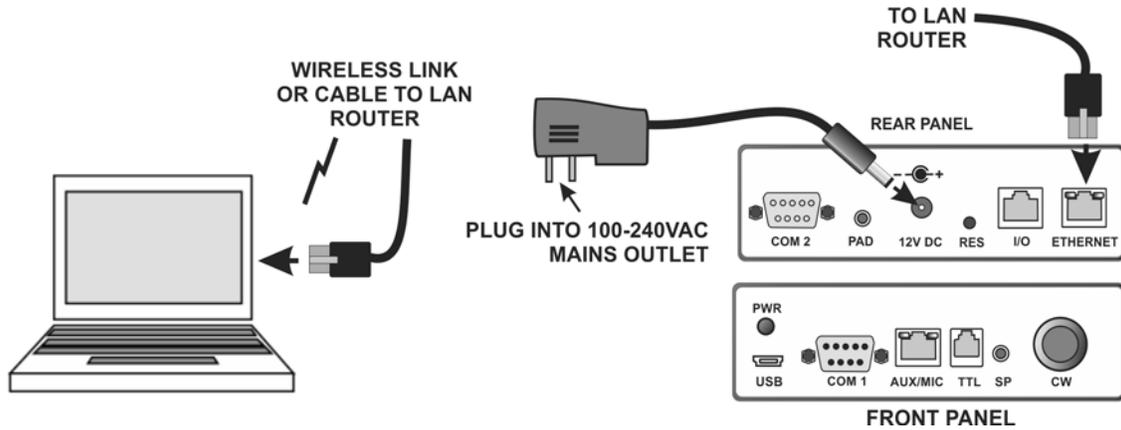

Figure 5
- Disconnect the USB cable between and connect both the RR-1256 Local (Control) unit with the CW knob and the computer to your LAN (Figure 5). Note that the PWR light on the RR-1256 unit's front panel stops blinking and remains on, indicating communications with the router. If it continues to blink, check to ensure the cable connectors are fully inserted and that you have a good cable. You must have a steady green PWR light to proceed.